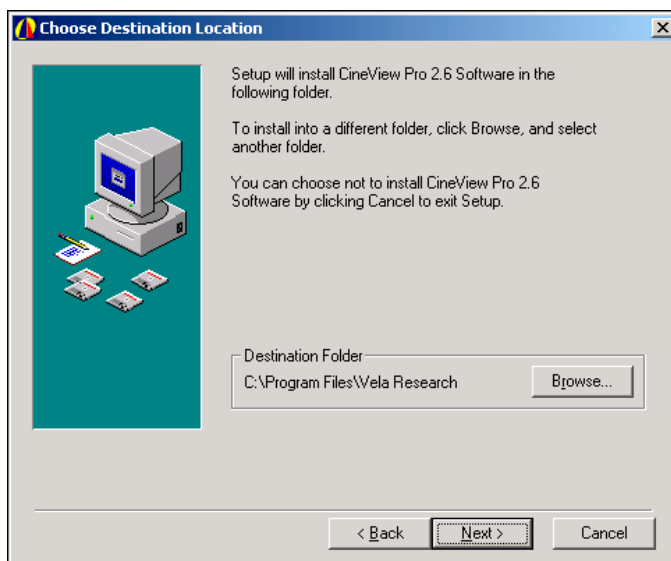

Figure 1-13. Destination Location Screen
- On the “Choose Destination Location” screen (Figure 1-13), accept the C:\Program Files\ Vela Research destination, as listed, by clicking Next. **Do not change the destination!** The default destination is required for proper decoder operation.